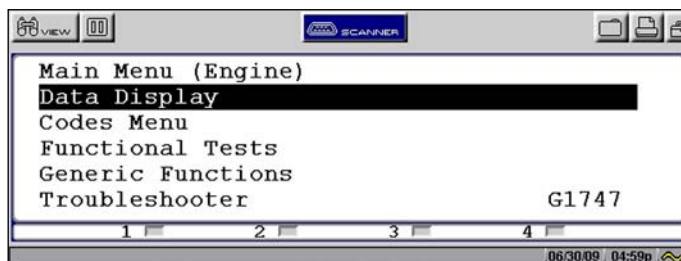

Figure 5-11 Sample main menu
- Press **N/X** until you reach the main menu (Figure 5-11).